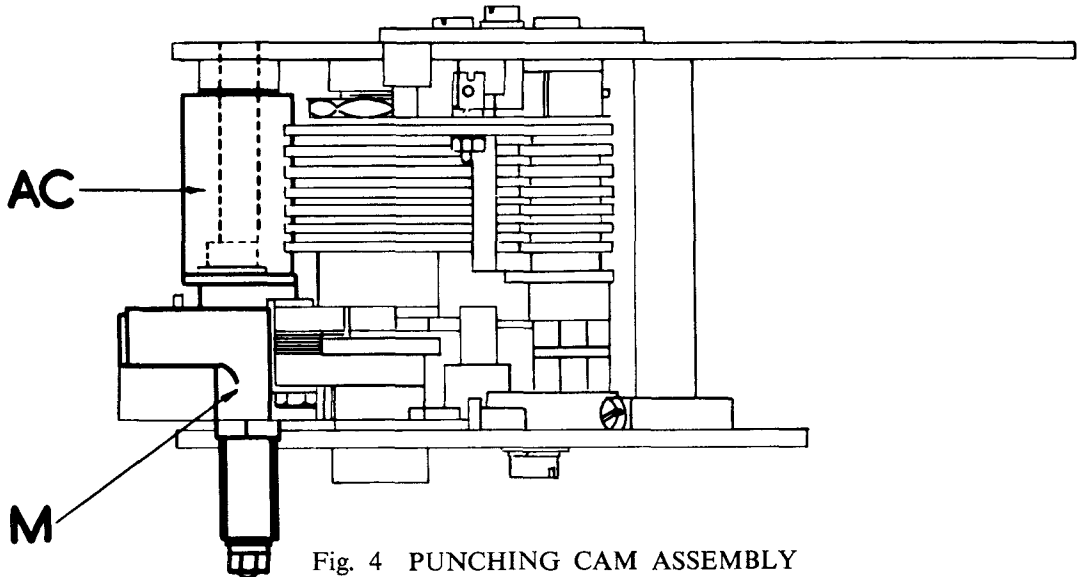

Fig. 4 PUNCHING CAM ASSEMBLY
**PUNCHING CAM ASSEMBLY (See Fig. 4.)**